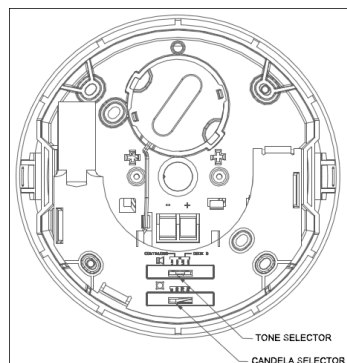

Figure 4: Horn Strobe Candela Selector
**NOTE:** Candela factory settings are shown in Figure 4.